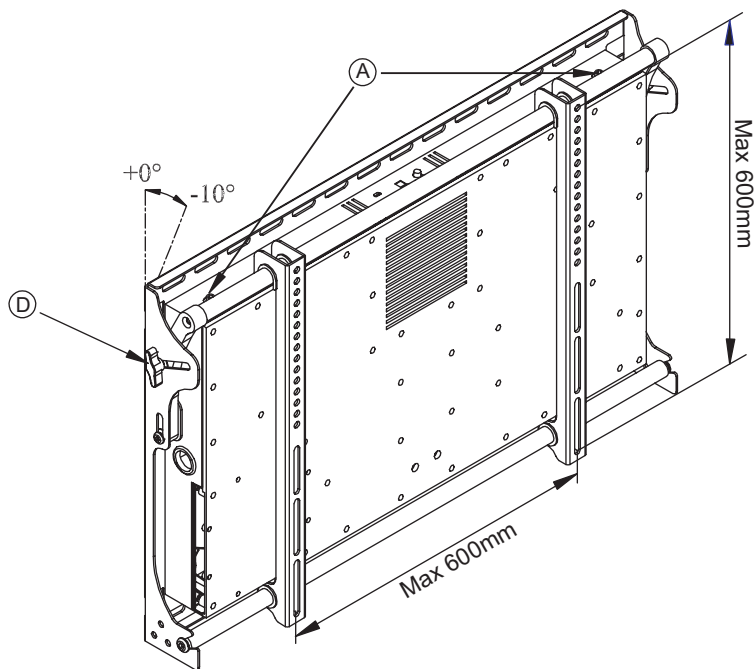

Figure 15 - Adjust Angle
Adjust the angle of the TV and then tighten the T-screw handles (D) and locking screws (A) (Figure 15). You can then adjust the width and angle of the speakers and lock the speaker screws, as described in Step 8.